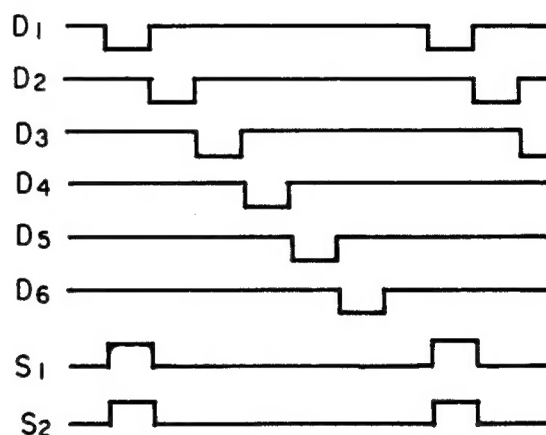

Fig. 12
More specifically in the above figure when digit output Dn (IC output) is "L," the Q23~Q27 Darlington pnp transistors turn ON and when the segment output Sn is "H," IR2403 and Q37 turn ON, segment 1 of the LED lights. For instance, when the first digit output goes to "L", and segments (2) and (3) go to "H", "H" is indicated and lighting is repeated as in Fig. 12 at a speed of 3 msec.